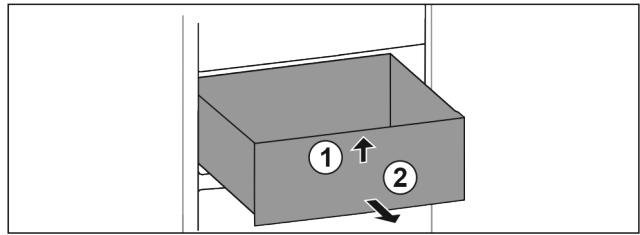

Fig. 54
- ▶ Lift up drawer at the front. Fig. 54 (1)
- ▶ Remove drawer to the front. Fig. 54 (2)